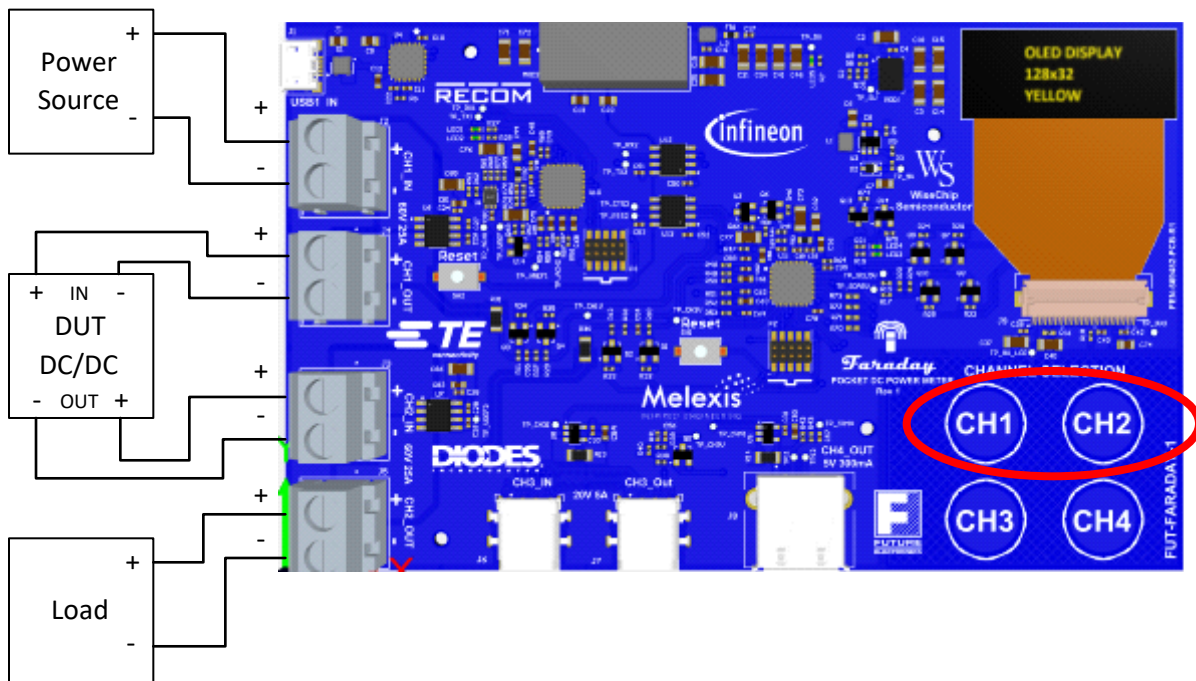

Figure 2. Power Efficiency Measurement Using Both Channel 1 & 2
2. Connect Channel 1 for the input and Channel 2 for the output as shown in **Figure 2** to measure DC power supply efficiency;